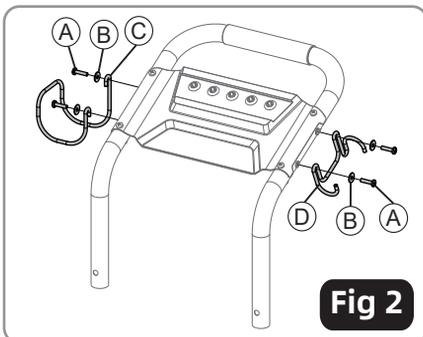

Fig 2
- Install the High-pressure Hose holder (C) onto the left side of the upper handle using two M6x25 mm Phillip head screws (A) and two M6 flat washer (B). Hand tighten.
- Install the Spray Gun holder (D) onto the right side of the upper handle using two M6x25 mm Phillip head screws (A) and two M6 flat washers (B). Hand tighten. Fig 2